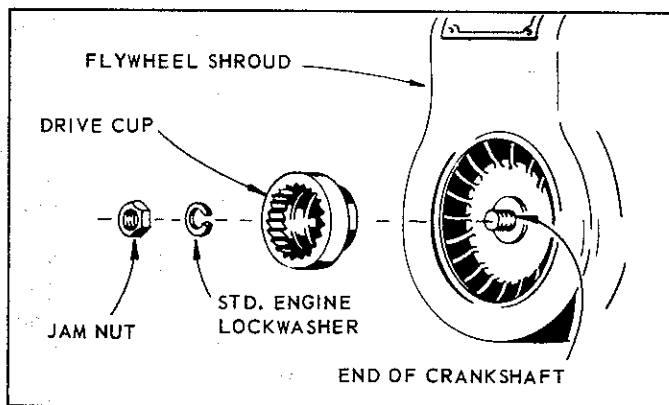
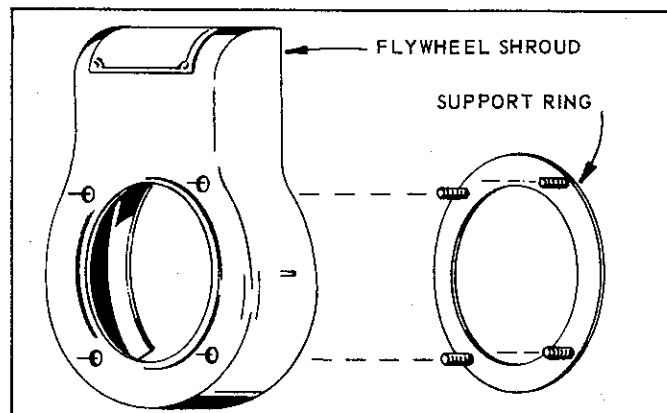

FIG. 2
FIG. 5
- B. With reference to Fig. 2, remove flywheel nut from end of crankshaft and discard, but retain *lockwasher*. Mount *drive cup* to end of crankshaft and secure in place with standard engine *lockwasher* and new *jam nut*.
F. Place *support ring* inside *flywheel shroud* with studs extended thru drilled holes, as shown in *Fig. 5*. Reassemble *flywheel shroud*, *drive cup*, *lockwasher* and *jam nut*, as illustrated in *Fig. 2*.